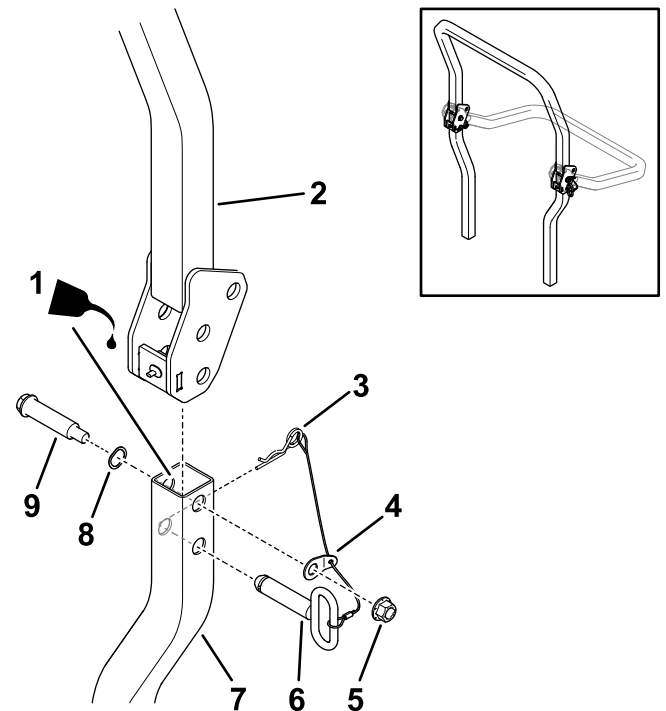

Figure 12
5. Lightly oil the inside surfaces of the lower roll bar tubes (Figure 12).
6. Loosely install the upper roll bar to the lower roll bar using 2 shoulder bolts, 2 wave washers, 2 washer tabs attached to lanyards, and 2 locknuts (1/2 inch) as shown in Figure 12.
8. Raise the upper roll bar into the upright position, install the latch pins (the oval handles must be on the outside of the machine), and secure with hairpin cotters on each side (Figure 12).